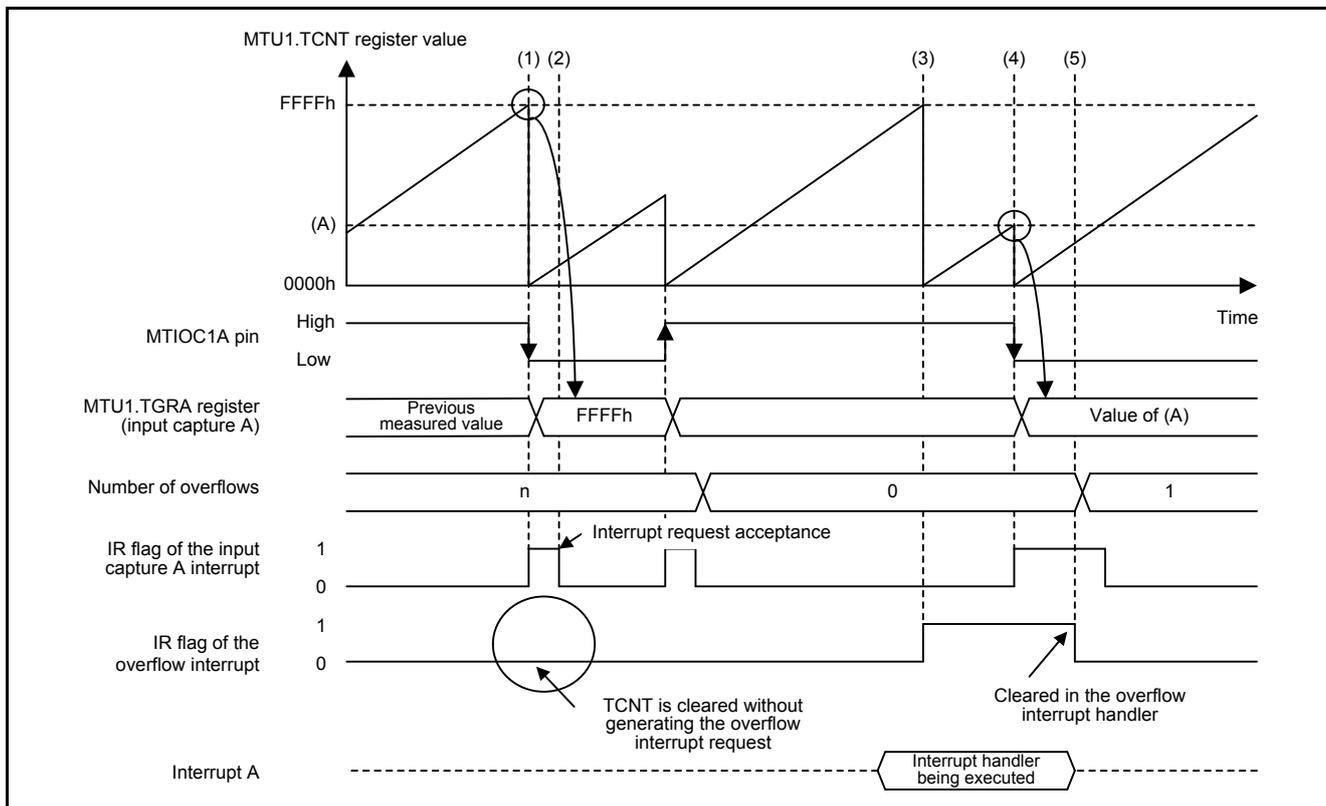

Figure 5.12 Timing Diagram When an Input Capture and Overflow Occur Simultaneously
- (1) When a falling edge occurs on the signal input to the MTIOC1A pin while the MTU1.TCNT register value is FFFFh, the MTU1.TCNT register is cleared and the input capture A interrupt request is generated after FFFFh in the MTU1.TCNT register is transferred to the MTU1.TGRA register. If an overflow and counter clear occur simultaneously, the counter clear has a higher priority. Thus the overflow interrupt request is not generated.
- (2) In the input capture A interrupt handler, the MTU1.TGRA register value (FFFFh) is read, and the pulse width is calculated.
- (3) When the MTU1.TCNT register value overflows while an interrupt handler (hereinafter referred to as interrupt handler A) other than an overflow interrupt handler and input capture A interrupt handler is being executed, the overflow interrupt handler is delayed.
- (4) When a falling edge occurs on the signal input to the MTIOC1A pin while interrupt handler A is being executed, the MTU1.TCNT register value is transferred to the MTU1.TGRA register and an input capture A interrupt request is generated (input capture A interrupt handler is delayed).
- (5) When interrupt handler A is completed, the overflow interrupt which has a higher interrupt priority level is executed first. In the overflow interrupt handler, the number of overflows increments by 1. In the input capture A interrupt handler which is subsequently accepted, the pulse width is calculated.
Figure 5.12 shows the Timing Diagram When an Input Capture and Overflow Occur Simultaneously. (1) to (5) in the figure correspond to (1) to (5) in the description above.